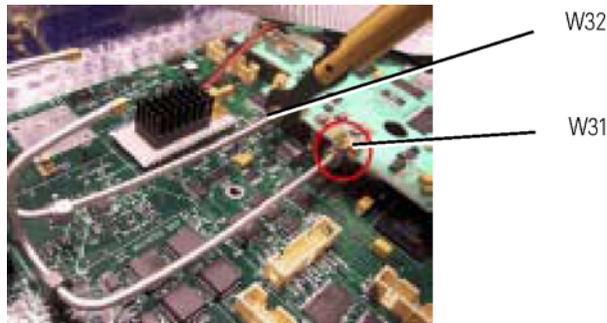

Figure 6-12. Cables W32 and W31 (circled)
- 3 Remove the existing cable W31, part number 86100-20053, from the A14J2 INPUT and discard. See Figure 6-12.